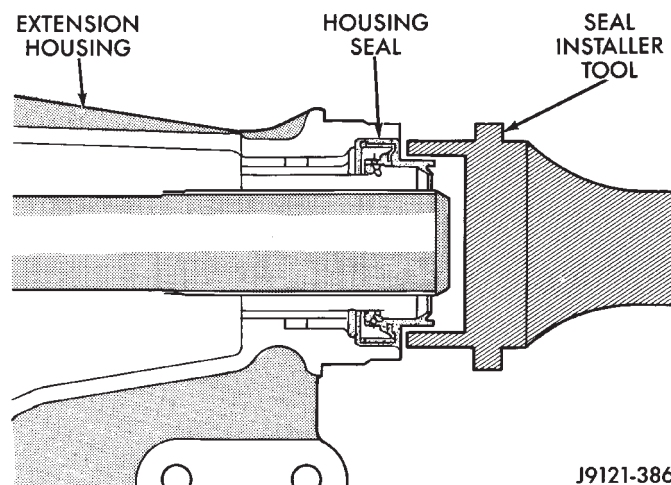
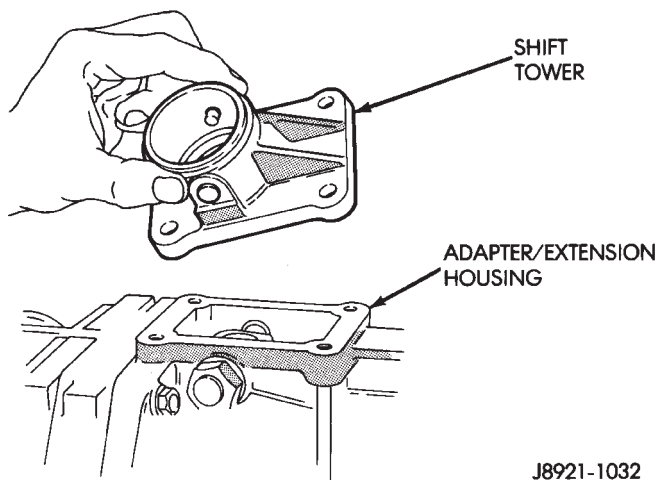

Fig. 129 Installing Extension Housing Seal
Fig. 128 Shift Tower Installation
(29) Install shift tower (Fig. 128). Tighten tower attaching bolts to 18 N•m (13 ft. lbs.) torque.
(30) Install new gasket on backup light switch and install switch. Tighten switch to 37 N•m (27 ft. lbs.) torque.
(31) Install new washer on drain plug. Then install and tighten plug to 37 N•m (27 ft. lbs.) torque.
(32) If transmission will be filled with gear lubricant before installation, place transmission in a level position. Then fill with Mopar 75W-90, grade GL-5 gear lubricant. Correct fill level is to bottom edge of fill plug hole.
(33) Install new washer on fill plug. Then install and tighten plug to 37 N•m (27 ft. lbs.) torque.
(34) Install clutch housing and hydraulic concentric bearing.
(35) On models with extension housing, install new seal in housing with suitable size installer tool (Fig. 129). Lubricate seal lips with petroleum jelly before installation.
(36) On models with extension housing, install speedometer driven gear, speedometer adapter and speed sensor.